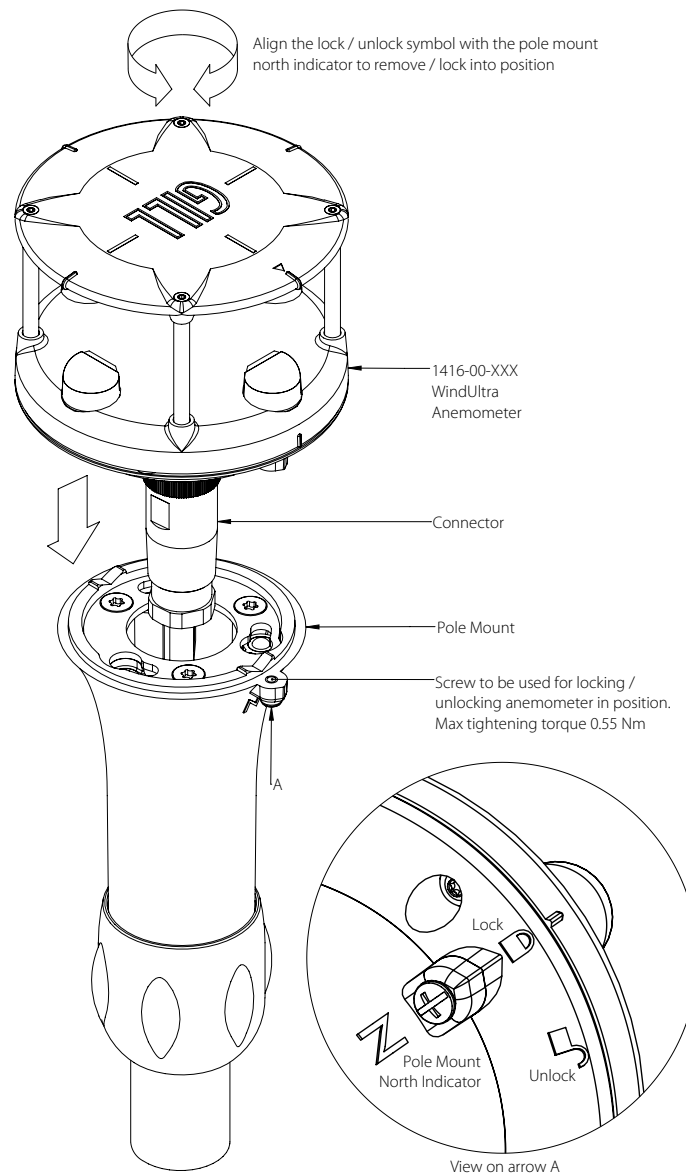

Figure 13 - Connecting the sensor to the pole mount
3. Place the Sensor Unit onto the Pole Mount and turn counter clockwise to secure in place, as shown in Figure 13
To panel-mount the anemometer, remove 3 off pole-mount location pins with an 8mm spanner, and fasten to panel using 3 off M4 screws into blind holes, ensuring a maximum tightening torque of no more than 1.3 Nm, and maximum 5mm deep full thread from the base of the anemometer. Figure 13 provides details for panel-mounting.